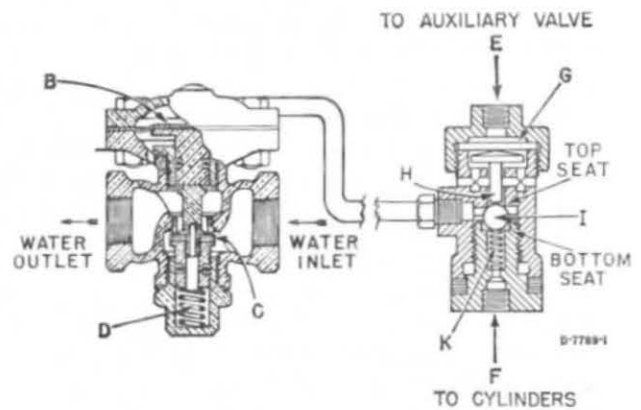
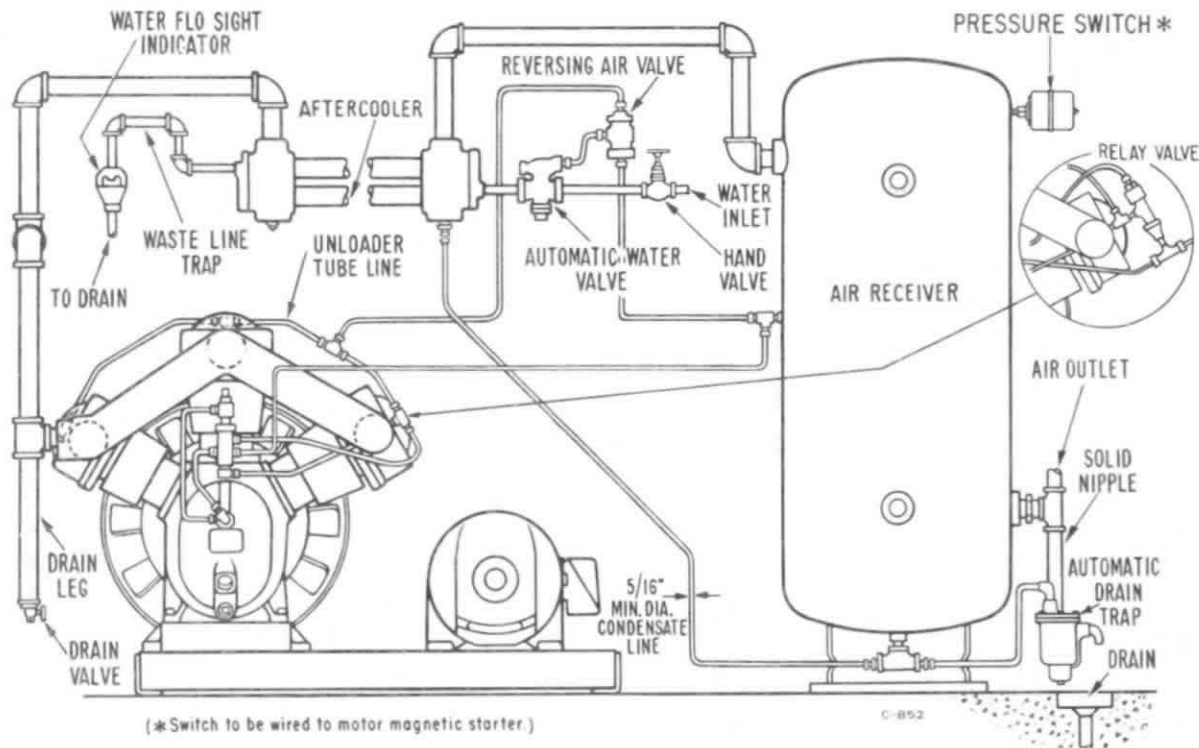

Figure 2-5. Automatic Water Valve
Figure 2-7. Schematic Piping Diagram for Single-Stage Compressors Regulated by Automatic Start & Stop Control.
phragm (G), Figure 2-5. With pressure against the diaphragm, plunger (H) forces ball (I) against its bottom seat, blocking receiver air pressure to the water valve and permitting pressure over the water valve diaphragm (B) to bleed back through the reversing valve to atmosphere. As a result, the water valve spring (D) reseats the valve (C), shutting off water flow through the valve and aftercooler.
Single-Stage Compressors Regulated by Automatic Start & Stop Control — The piping arrangement for these units is shown in Figure 2-7. When the compressor stops, the pilot valve opens, permitting receiver pressure to pass into the unloader tube line and to the reversing valve. The pressure is applied against the reversing valve diaphragm (G), Figure 2-5. With pressure against the diaphragm, plunger (H) forces ball (I) against its bottom seat, blocking receiver air pressure to the water valve and permitting pressure over the water valve diaphragm (B) to bleed back through the reversing valve to atmosphere. As a result, the water valve spring (D) reseats the valve (C), shutting off water flow through the valve and aftercooler.